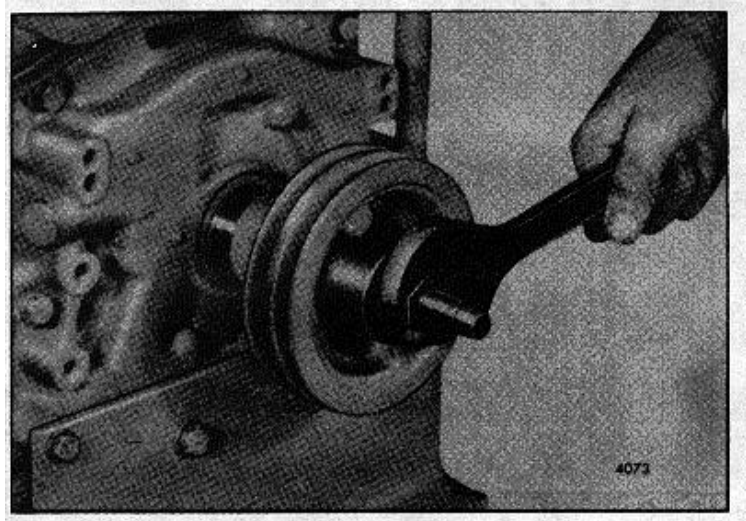

Fig. 2 - Installing Crankshaft Pulley Using Installer J 7773
5. Install a rigid type pulley on an In-line engine with installer J 7773 as shown in Fig. 2. Then remove the installer.